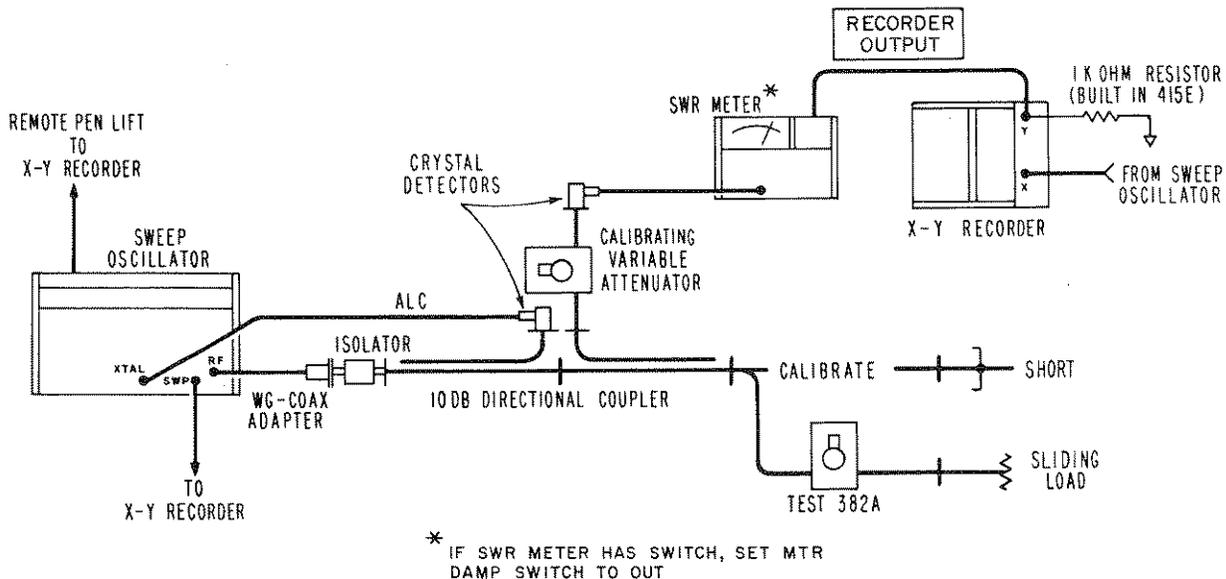

Figure 2. RF Pre-Insertion - X-Y Recorder Setup for ρ Tests
34. This test will obtain the SWR by measuring the reflection coefficient and calculating the SWR. Connect the instruments as shown in Figure 2.
a. With the instruments connected as in Figure 2, the calibrating attenuator set to 35 dB, and the short connected, run a slow trace. If a moveable short is used, rapidly phase the short while sweeping. The average of the fine grain variation of the trace is the calibration curve.
a. In the setup of Figure 2 connect a slotted line and SWR Meter between test setup and 382 under test.